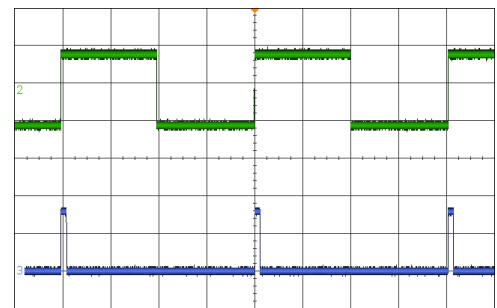

Figure 17
4. Slowly turn the trim pot counter-clockwise until the frequencies match, as shown in Figure 17.